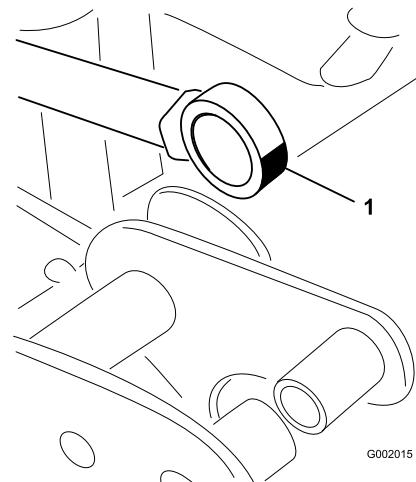

**Figure 71**
7. While supporting the spray section, insert the clevis pin through both boom pivot and actuator rod (Figure 71).